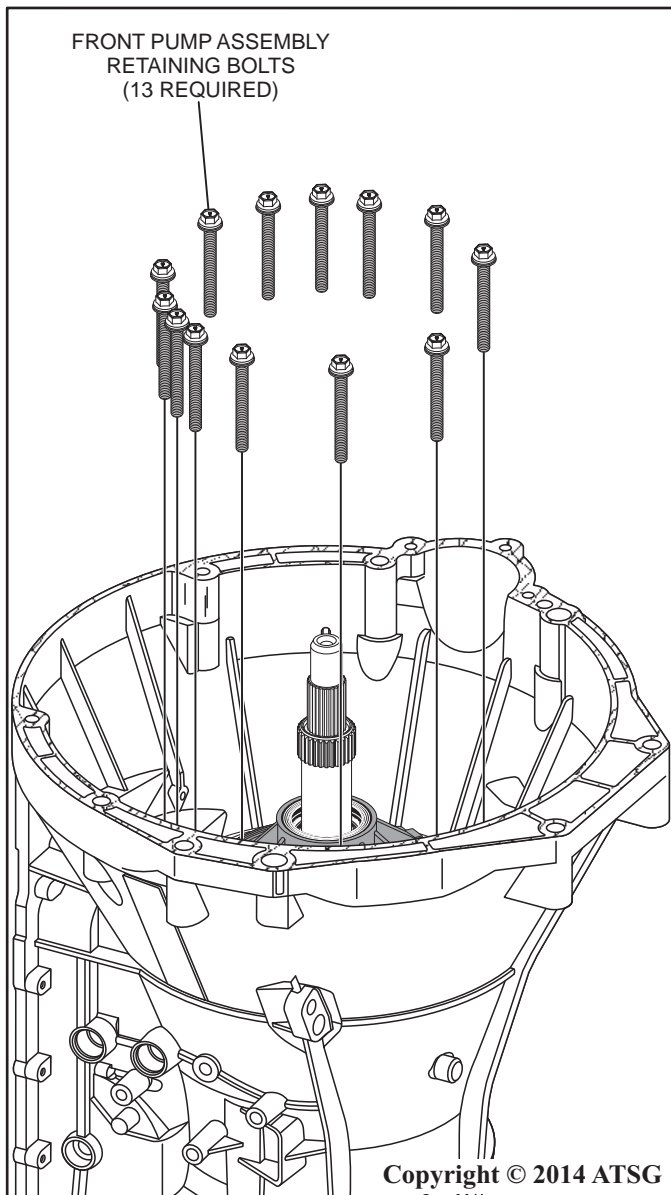

Figure 144
32. Install the thirteen front pump assembly retaining bolts and hand-tighten them as shown in Figure 144.